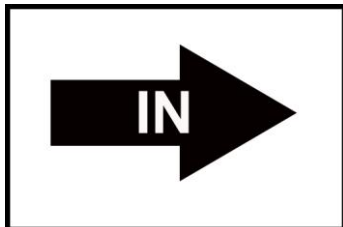

Fig 1
TFP 5000: Connect via the hose of the pump to the hose connection of the filter inlet (IN). Connect the drain hose to the hose connection of the filter outlet (OUT). See Figure 1 + 2